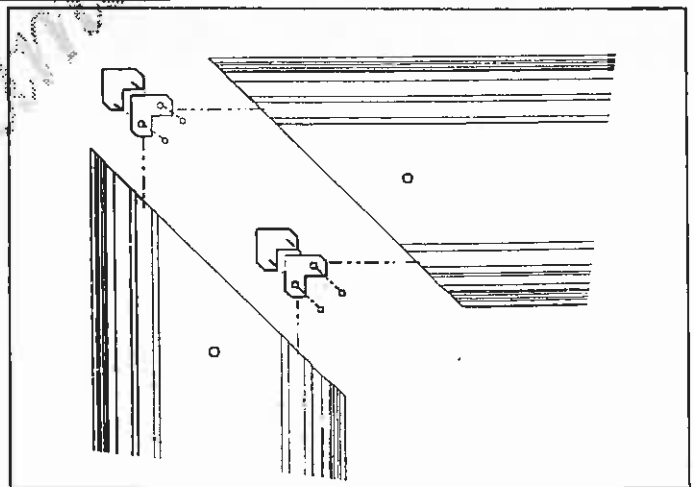

Figure 1
1. Align the 45° Corners of the Surround Side pieces with the Surround Top. Insert the Corner Brackets and Spacers into the Channels on the back of these parts. There are [2] Brackets and Spacers for each Corner. See Figure 1.